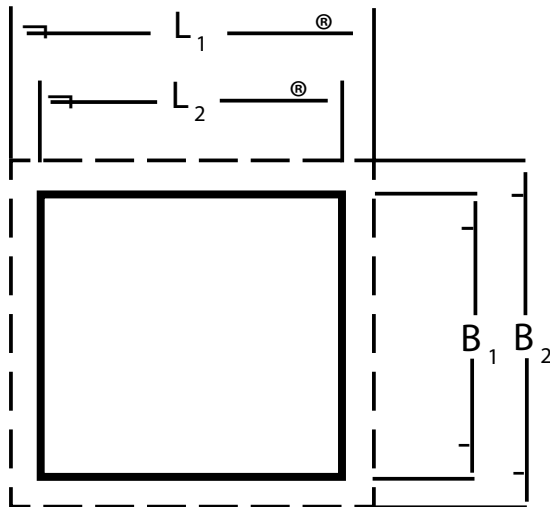
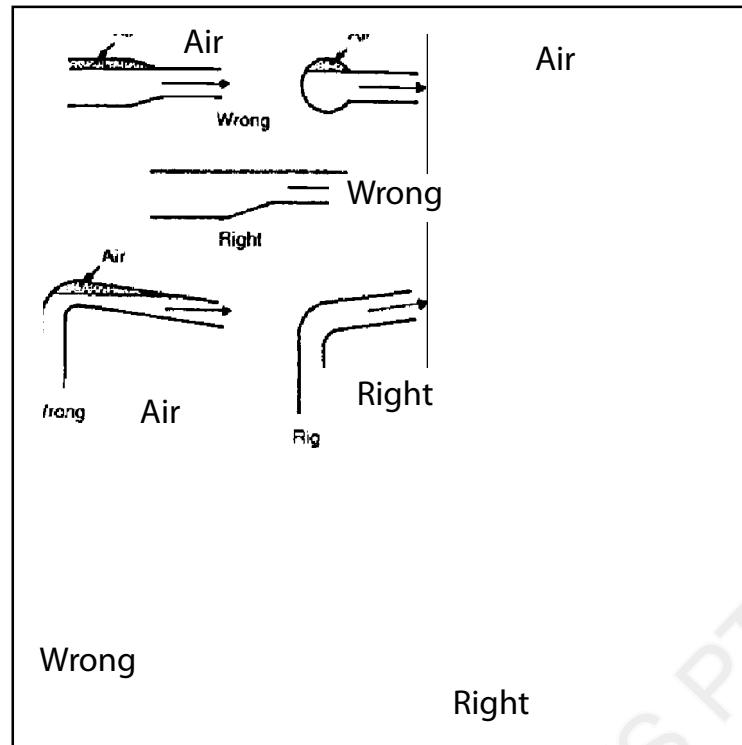

Fig. 1
Fig. 2
Concrete or a similar foundation of a suitable height should be provided for the pump stand. The pump can also be fixed in a vertical position from the wall via a suitable bracket. Dimensions of the base are shown in Fig. 1.
- All pipework should be assembled so that all air locks are avoided. (See Fig. 2 for suction side).Fig. 1